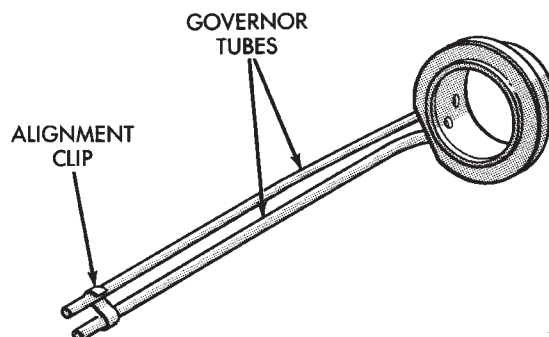

Fig. 62 Positioning Governor Tube Alignment Clip
(14) Install alignment clip on governor tubes (Fig. 62). Slide clip up against shoulder on each tube.